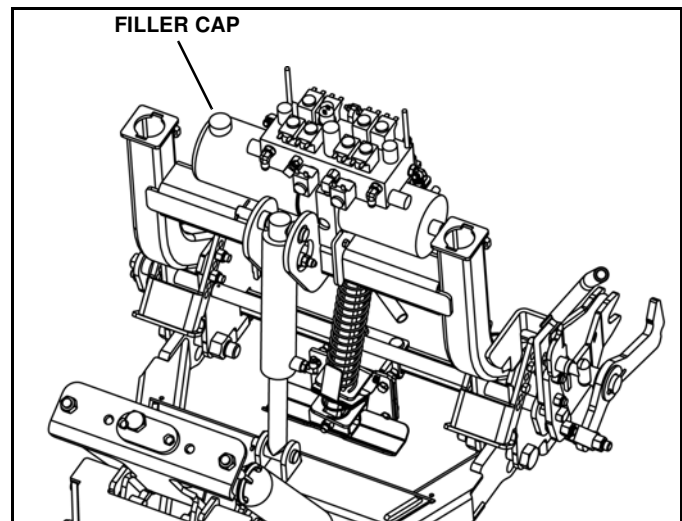

Figure 1-43
4. Remove the filler/breather cap from the reservoir. (See Figure 1-43).